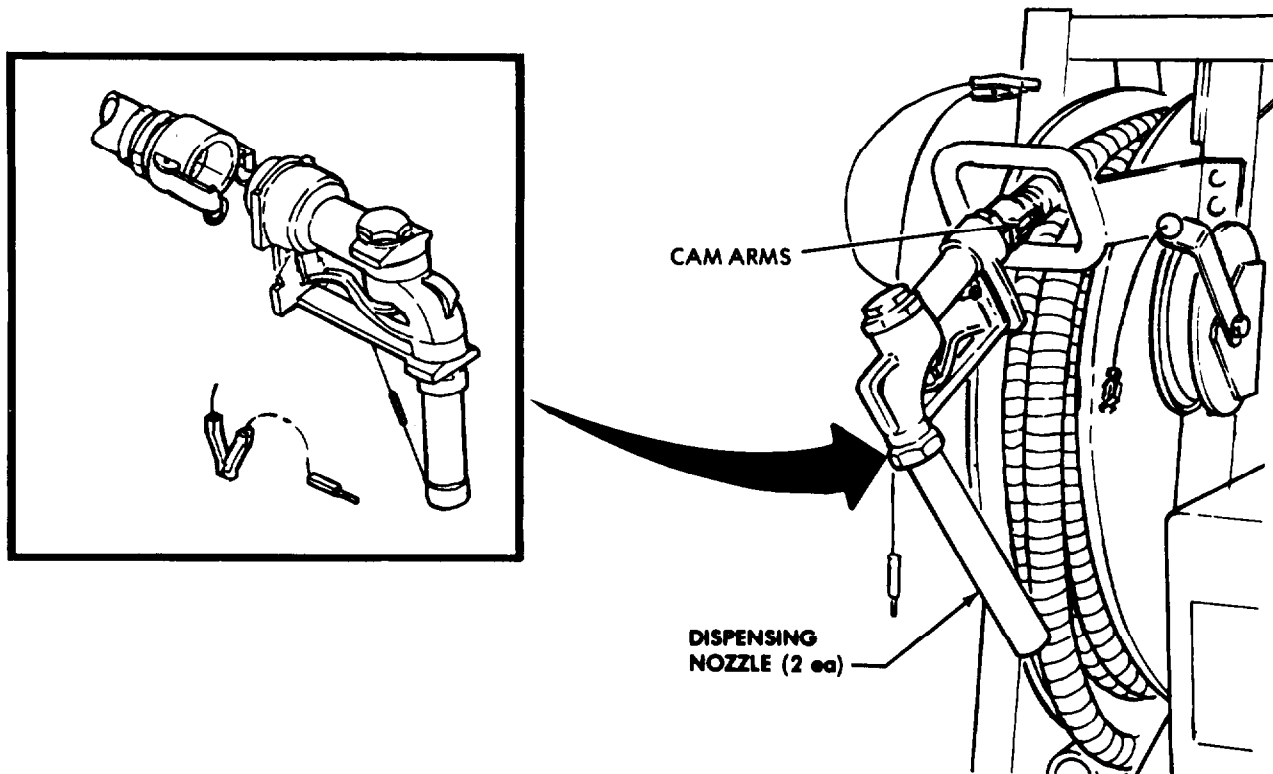

Figure 4-13. Fuel Dispensing Nozzle Assembly.
- (1) Close dispensing valves on tanks by setting cam levers to CLOSE position.
- (2) Open nozzles and drain hoses into a suitable container.
- (3) Remove nozzles by pulling out on cam arms and disconnect couplings. (Figure 4-13.)
- (1) Install nozzles by connecting couplings and close cam arms (figure 4-13).
- (2) Open dispensing valves on tanks.